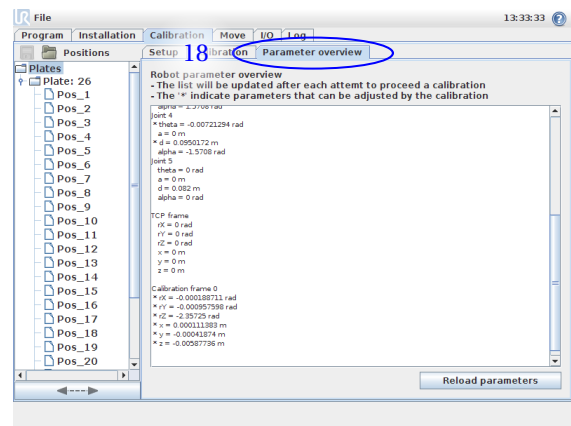

Figure 1.12: By the "Parameter overview" the parameter for the calibration can be inspected.
(18) The found parameters can be viewed in the "Parameter overview" tab, see figure 1.12.